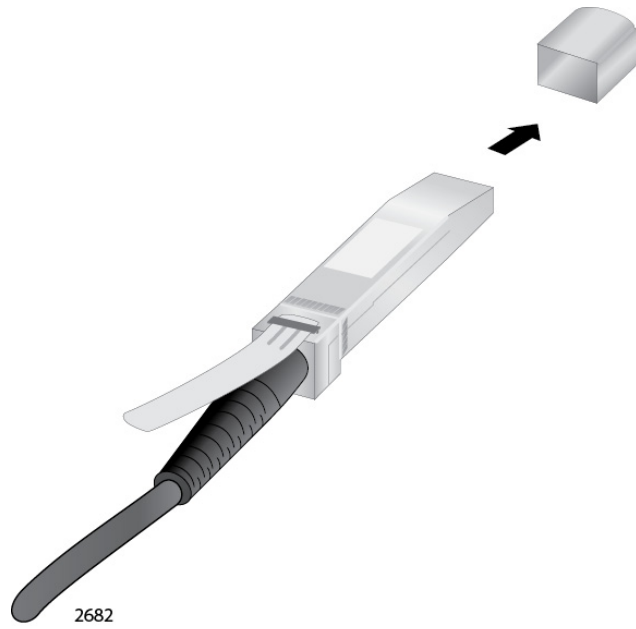

Figure 56. Removing the Dust Cover from a Direct Attach Cable
3. Remove the dust cap from one end of the transceiver, as shown in Figure 56 on page 95.